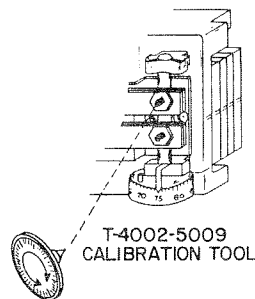

Fig. 2.35: Calibration of T-4504 and T-4514
4. Using a T-4002-5009 Calibration Tool, turn the night output adjusting screw to the desired night set point (see Fig. 2.35). Each graduation on the tool represents 1°F. Clockwise rotation decreases the set point on direct acting elements.